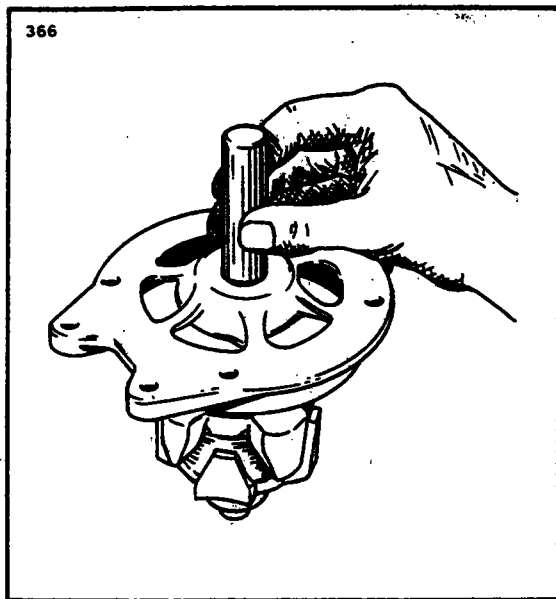

Figure 11-78. Installation of Bearing
a. Press the ball bearing into the drive end head using a flat block approximately two inch square so that the pressure is exerted on the outer race of the bearing. Install the retainer plate. With the snap ring and retainer cup in place on the rotor shaft, use a tool that fits over the shaft and against the inner bearing race, and press until the inner bearing race is against the snap ring retainer cup. (Refer to Figure 11-78.)